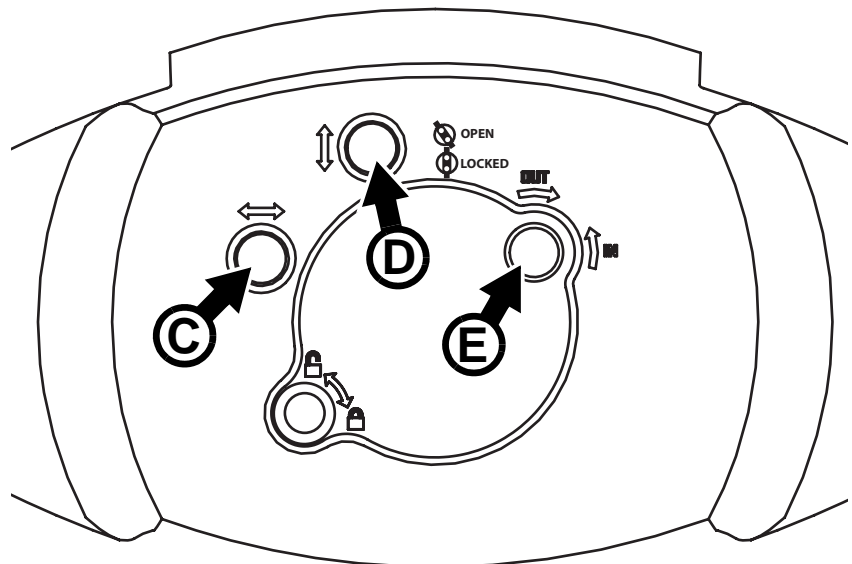

Figure 11: Lamp adjustment
- See Figure 11. Turn the three Torx 20 lamp adjustment screws **C**, **D** and **E** to obtain the most even beam.